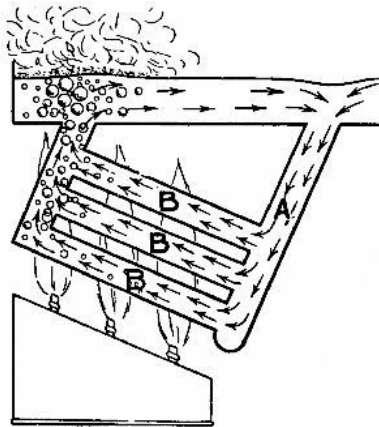

Fig. 5.
A further improvement results from increasing the number of tubes (Fig. 5), keeping them all on the slant, so that the heated water and steam may rise freely.
The Babcock and Wilcox boiler is widely used in mines, power stations, and, in a modified form, on shipboard. It consists of two main parts—(1) A drum, H, in the upper part of which the steam collects; (2) a group of pipes arranged on the principle illustrated by Fig. 5. The boiler is seated on a rectangular frame of fire-bricks. At one end is the furnace door; at the other the exit to the chimney. From the furnace F the flames and hot gases rise round the upper end of the sloping tubes TT into the space A, where they play upon the under surface of H before plunging downward again among the tubes into the space B. Here the temperature is lower. The arrows indicate further journeys upwards into the space C on the right of a fire-brick division, and past the down tubes SS into D, whence the hot gases find an escape into the chimney through the opening E. It will be noticed that the greatest heat is brought to bear on TT near their junction with UU, the "uptake" tubes; and that every succeeding passage of the pipes brings the gradually cooling gases nearer to the "downtake" tubes SS.